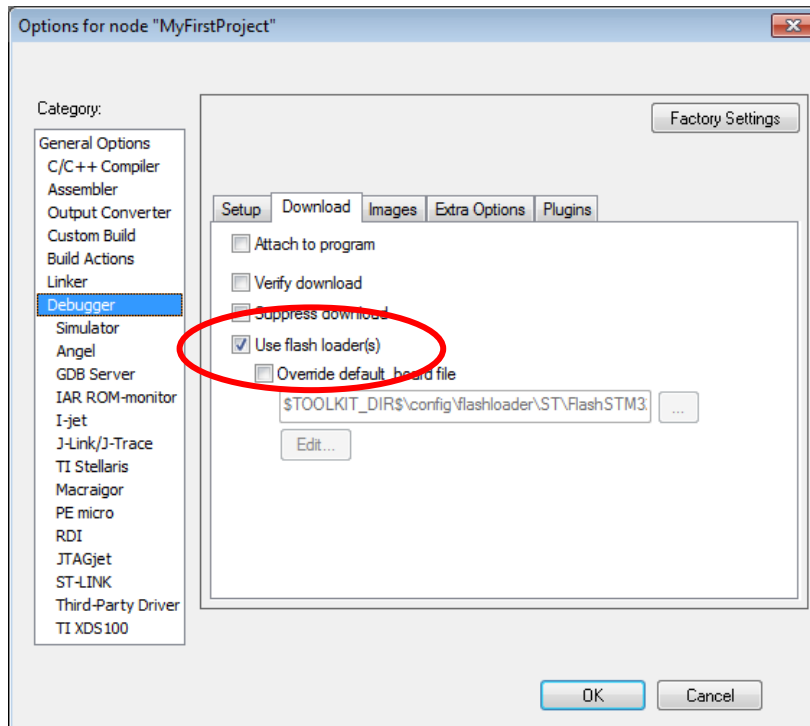

Figure 11: Use special protocol for loading the code into the flash memory
- Since we are to download into flash memory of the microcontroller we need to use protocol for loading into the flash, see Fig. 11.